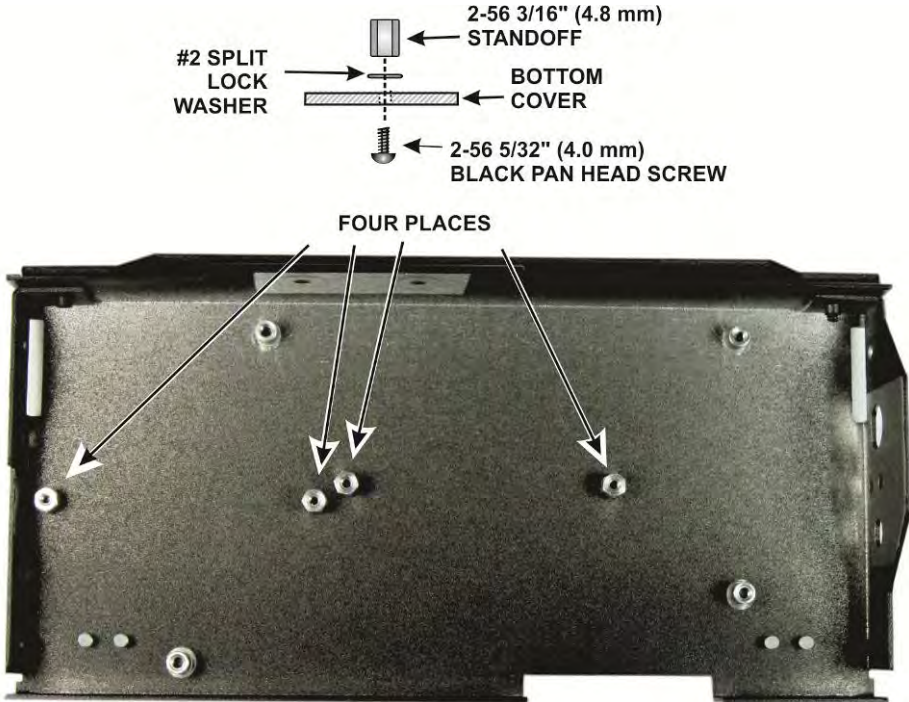

Figure 32. Installing 2-56 (Smaller) Standoffs in the Bottom Cover.
□ Install the four #2 (smaller) standoffs in the bottom cover as shown in Figure 32. Place the lock washers between the standoffs and the cover as shown to provide proper clearance for the RF board when it is installed. Leaving the washers out may result in damaged components on the RF board.